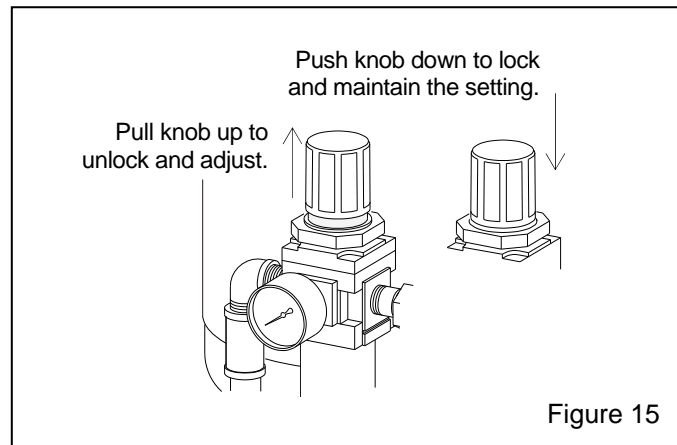

Figure 15
6.1 Inlet Regulator (Blast Pressure) – Figure 15
6.1.2 Two people make the initial adjustment easier. Air does not pass through the regulator unless the foot pedal is pressed. To adjust pressure, press the foot pedal and pull the knob up to unlock it, as shown in Figure 15, turn clockwise to increase pressure or counterclockwise to decrease pressure.